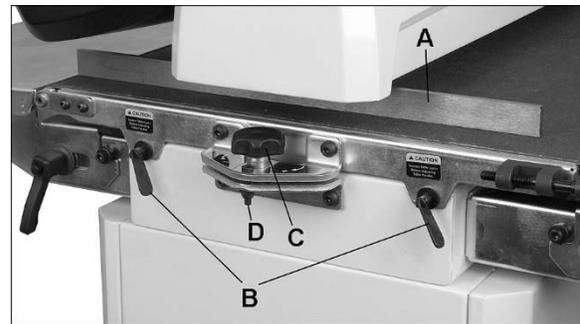

Figure 8-4: drum alignment
3. Insert gauge (A, Figure 8-4) between drum and conveyor table at outboard side.
7. Loosen both table locks (B, Figure 8-4)
3. If a ridge is visible where the drum overlaps, **loosen both table locks** (B, Figure 8-4) and lower table at outboard end by slightly turning knob (C) counterclockwise.
5. Tighten table locks (B).
Note: When sanding narrow stock (22" or less), return conveyor table to parallel position. Turn knob opposite direction until lock nut (D, Figure 8-4) is contacted. The lock nut provides a positive stop for table parallelism.